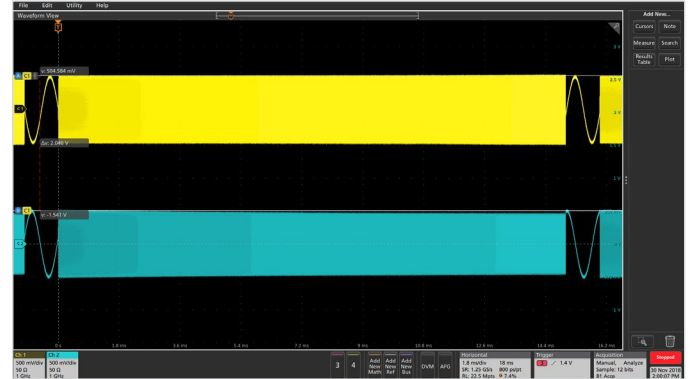

Figure 4. Flatness comparison between built-in sine and user-defined sine
**Figure 4** shows a built-in sine (yellow) and a user-defined sine as an arbitrary (blue), with both waveforms sweeping from 1 kHz to 100 MHz. The built-in sine has a better flatness performance across the range of frequency sweeping.